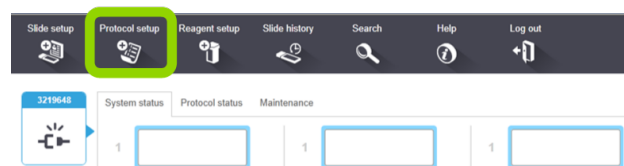

Figure 53: Protocol setup icon
- Click the **Protocol setup** icon (see Figure 53).